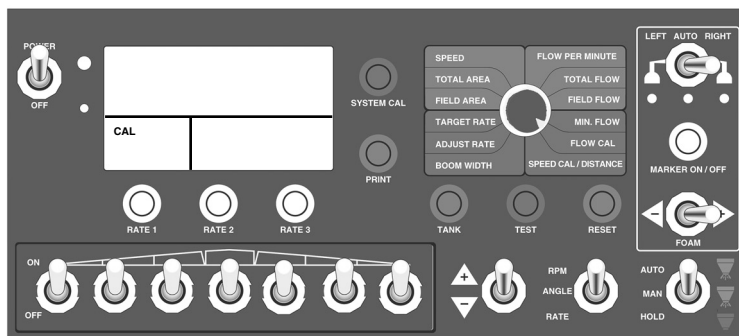

Fig. 8.2
2. Turn the rotary dial to any of the six (RED) calibration positions. The console will display CAL and the warning light will flash. See Figure 8.2.